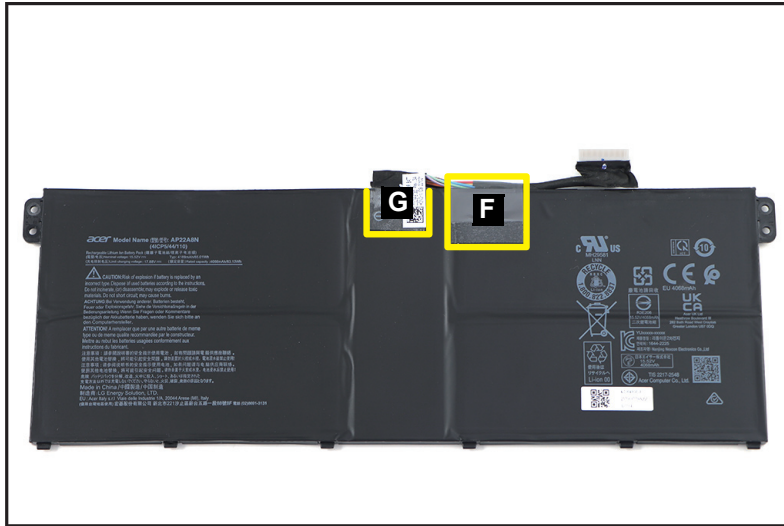

Figure 1-11. Battery Pack Removal
5. Detach the mylar (F) securing the battery cable to the battery pack. Then detach another mylar (G) securing the battery cable connection (Figure 1-11).